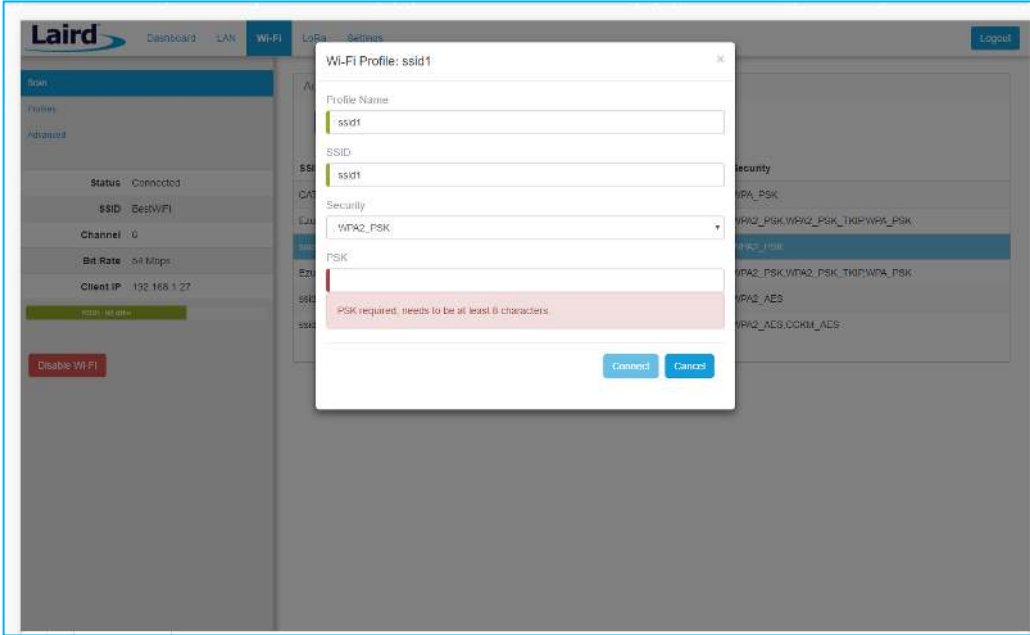

Figure 23: Wi-Fi profile window
3. In the Wi-Fi profile window, enter the appropriate credential information for your chosen Wi-Fi network (Figure 23).